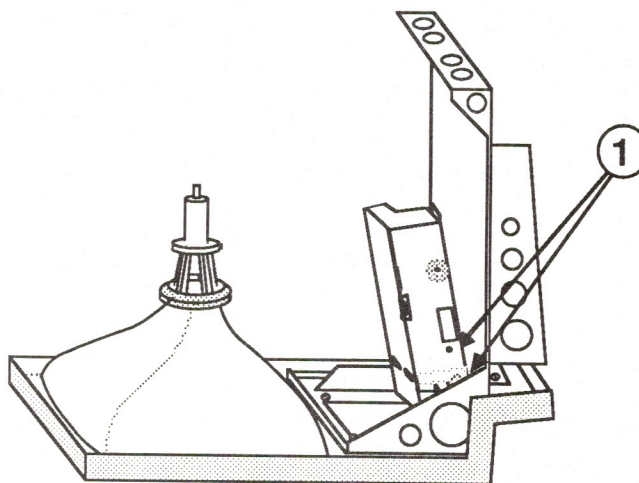

FIGURE 29
3. Place the drive into the chassis so that the tabs on the bottom of the metal drive housing fit into the holes provided in the chassis frame (Figure 29, #1).